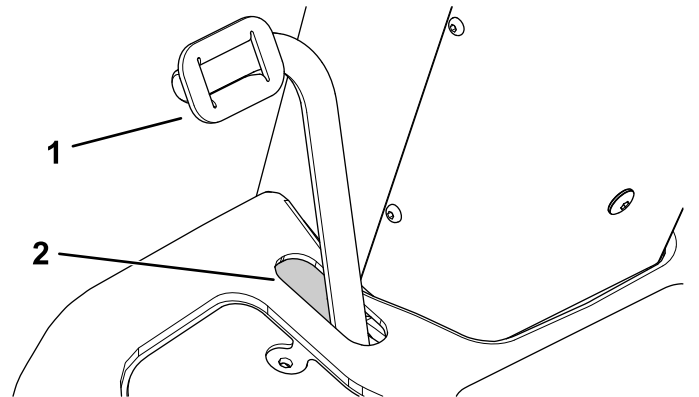

Figure 86
1. Push the brake pedal down to check if there is a sufficient gap in the front end of the slot (Figure 86).